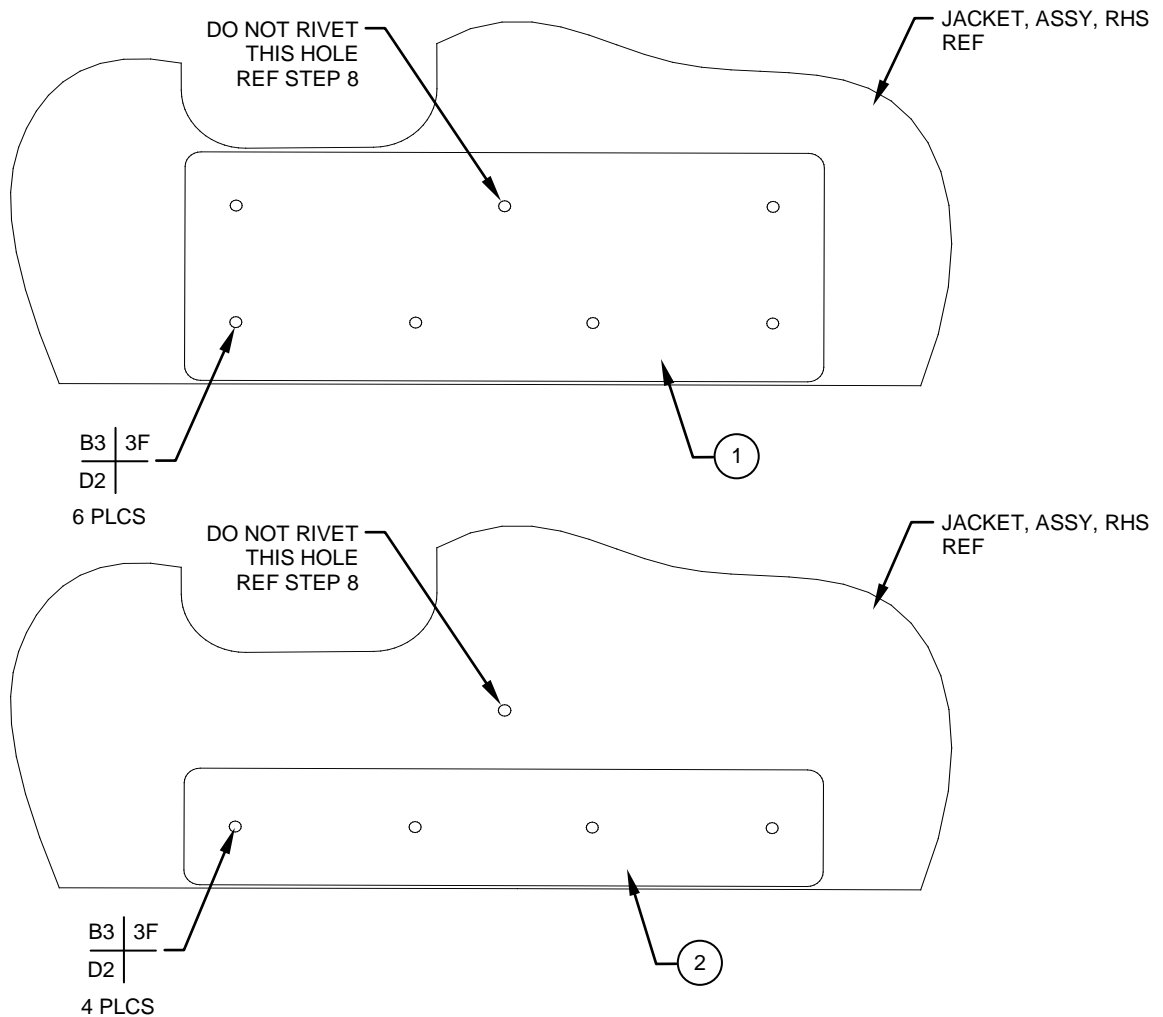

Figure 3
4. If applicable, install the new Wear Strip, Detail (Item 1 or 2 as applicable) and rivet in position as shown. Reference Figure 3.